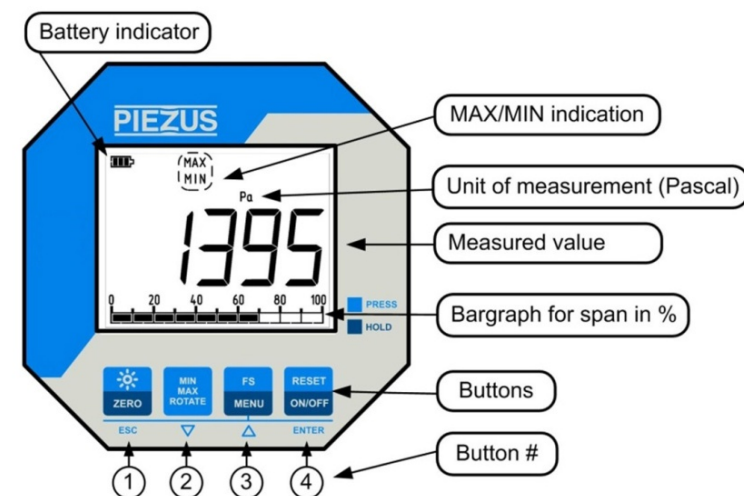

Figure 1 - Elements on the front panel of the device
5.1 There is a display and four buttons on the front panel of the device. See Figure 1 for their description.